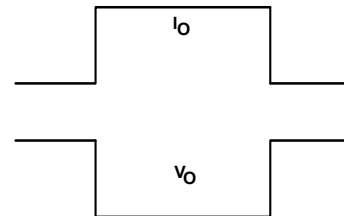
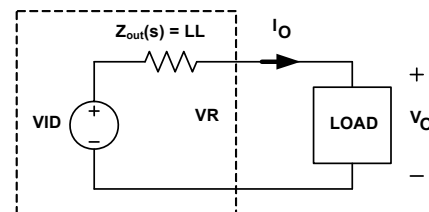

FIGURE 17. DESIRED LOAD TRANSIENT RESPONSE WAVEFORMS
FIGURE 23. VOLTAGE REGULATOR EQUIVALENT CIRCUIT
Assuming the compensator design is correct, Figure 17 shows the expected load transient response waveforms if C_n is correctly selected. When the load current I_{core} has a square change, the output voltage V_{CORE} also has a square response.
Figure 17 shows the desired load transient response waveforms. Figure 23 shows the equivalent circuit of a voltage regulator (VR) with the droop function. A VR is equivalent to a voltage source (= VID) and output impedance $Z_{\text{out}}(s)$. If $Z_{\text{out}}(s)$ is equal to the load line slope LL, i.e., constant output impedance, in the entire frequency range, V_o will have square response when I_o has a square change.